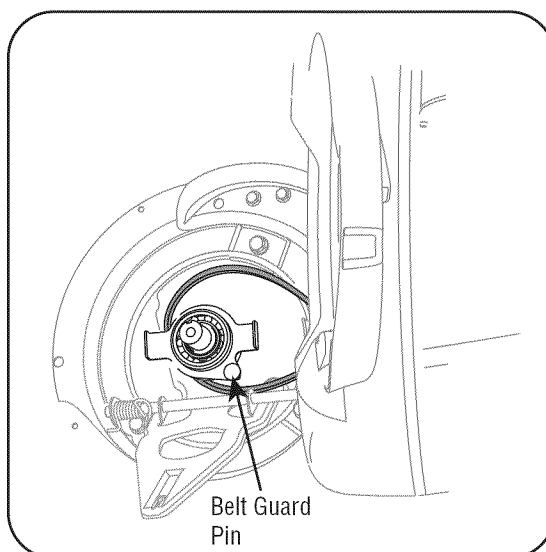

Figure 21
17. Place the belt between the two pulley halves on the crankshaft. Make sure to route the belt inside the belt guard pin. See Figure 21.